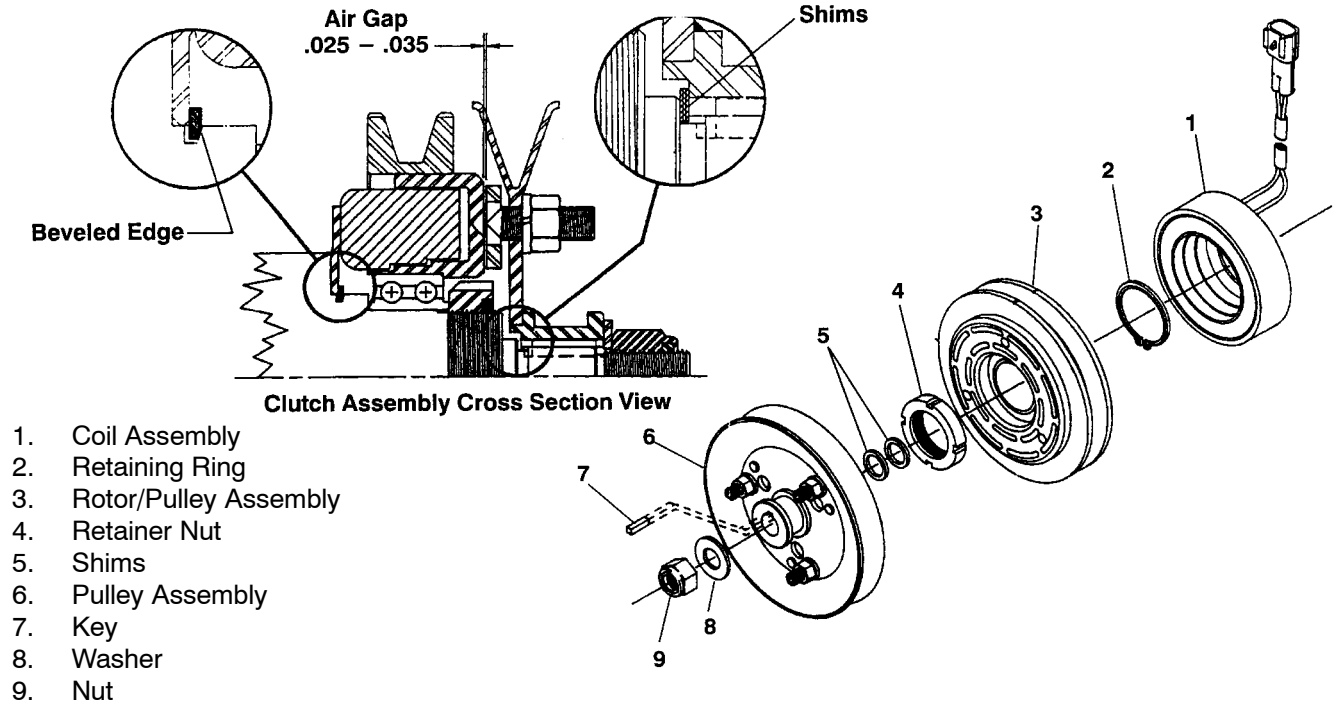

Figure 8-11. Gearbox Clutch
2. Remove armature/pulley assembly (Figure 8-11, 6)
- a. Remove shaft nut (9) and washer (8).
- b. Using a standard 2- or 3-jaw gear puller, pull the armature (6) off the shaft. Apply the puller jaws to the pulley hub, not the rim of the pulley.
- b. Install bearing retainer nut (4). Tighten nut to 65 lb-ft. Rotor should spin free without noise.
3. Install armature/pulley assembly (6)
- a. Slide armature assembly (6) onto gearbox shaft. Measure air gap between armature face and rotor face using Air Gap Tool 07–00360–01, or a wire type feeler gauge. Three access holes are provided in the pulley face.
- b. If the air gap is less than 0.020 in., remove armature assembly and add shim(s) (5) to shaft as shown in Figure 8-11. Use only new shims.
- d. Install a new key (7) in shaft.
- f. Install washer (8) and lock nut (9). NOTE: two types of locking nuts may be used –